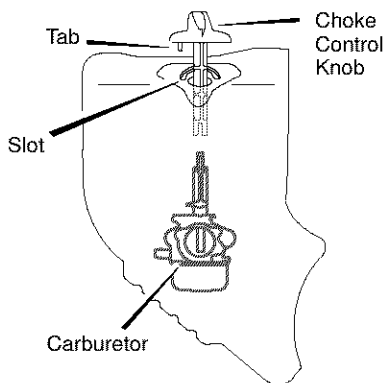

Figure 35
7. Align the tab on the choke control knob with the slot in the snow hood (see Figure 35).